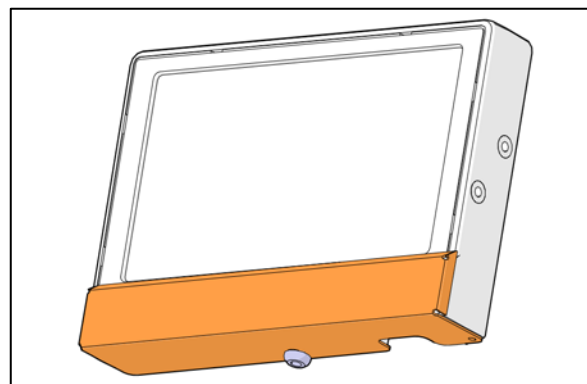

Figure 2
2. Tighten the screw (Figure 2).